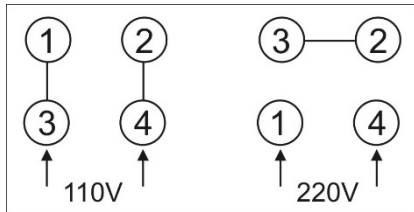

Figure 9-2
- Switch the leads in the coolant pump junction box, according to the diagram in Figure 9-2. (A diagram is also included on the coolant pump.)